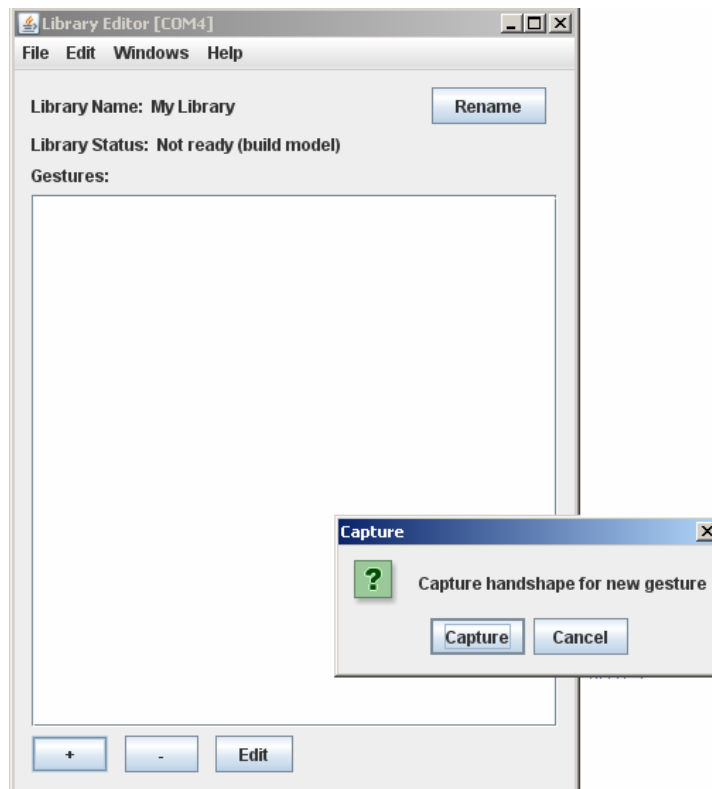

Figure 16 – Capturing a new gesture
Step 2: Make the gesture with the AcceleGlove and then click Capture (Figure 16).